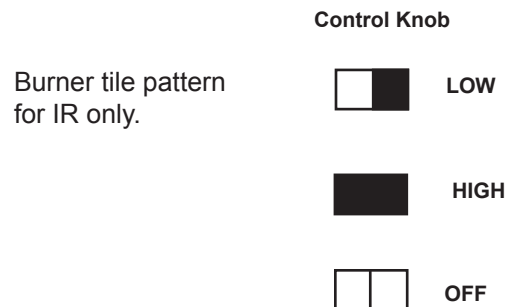

Figure 18
7. Keep control knob depressed in for ten (10) seconds after lighting pilot. If pilot goes out, repeat steps 4, 5, 6 and 7.
8. **FOR IR10NG:** When the pilot is lit, turn the control knob to "LO" position to light heater. Leave on "LO" position until first burner tile has turned bright red (Figure 18)